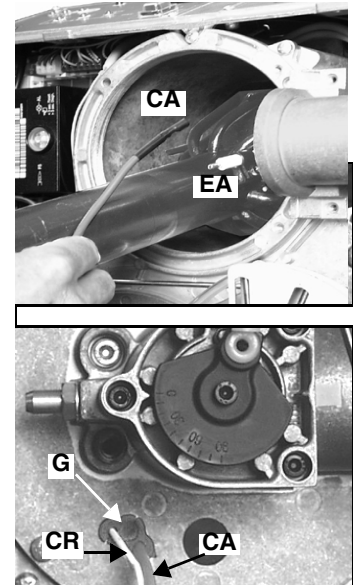

Fig. 42
- 3 Remove the connector **CR** of the ionization electrode (Fig. 42).
- 4 Unplug cable **CA** of the ignition electrode **EA** (Fig. 42) and extract it from the flange by removing the rubber **G** (Fig. 42).